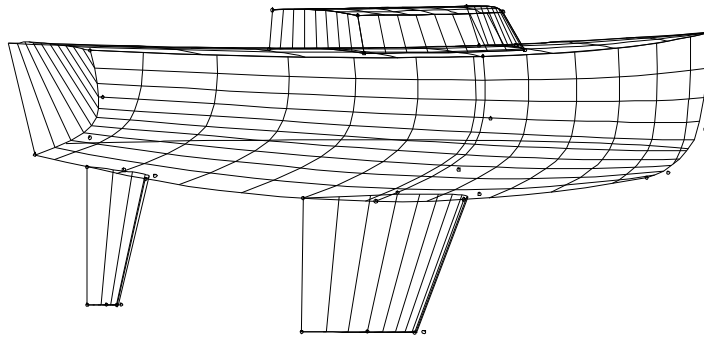

Fig. 7
- 10 **Clear Selection Set** (Fig. 7).